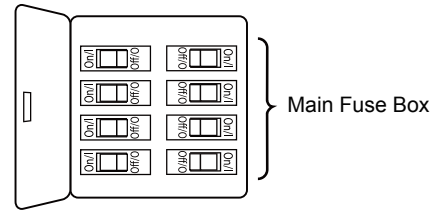

Figure 1
1. Slide the blade through the slot in the motor assembly and position blade over the motor assembly with threaded posts showing. Make sure the bottom edge of the blade is fully seated against the flywheel of motor assembly. Tighten blade plate with 3/16"-24 screw assembly to secure the blade to the flywheel of motor assembly. (Figure 1)
- ☐ 1. Remove the hanger ball portion from the downrod/hanger ball assembly by loosening the set screw in the hanger ball until the ball falls freely down the downrod. Remove the pin from the downrod, then remove the hanger ball. Retain the pin and hanger ball for reinstallation in Step 6. (Figure 1)
To avoid possible fire or shock, be sure electricity is turned off at the main fuse box before hanging. (Figure 1)
- ☐ 1. To set the code on receiver unit, slide dip switches to the same positions as set on the remote control. (Figure 1)